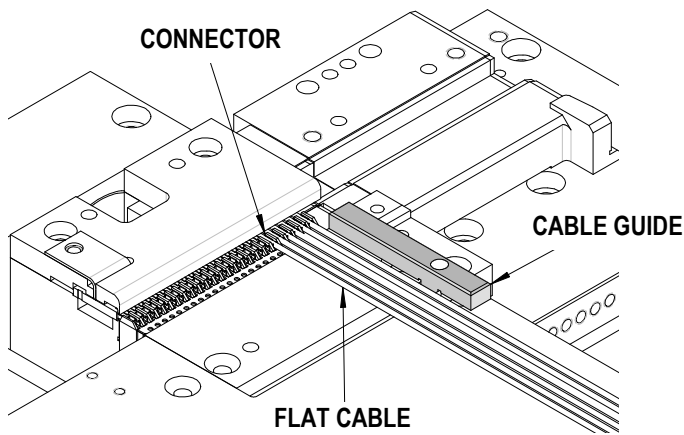

Figure 2-11
4. Place a length of flat cable against the cable guide and slide it forward until the leading edge of the cable touches the connector housing. See Figure 2-11.